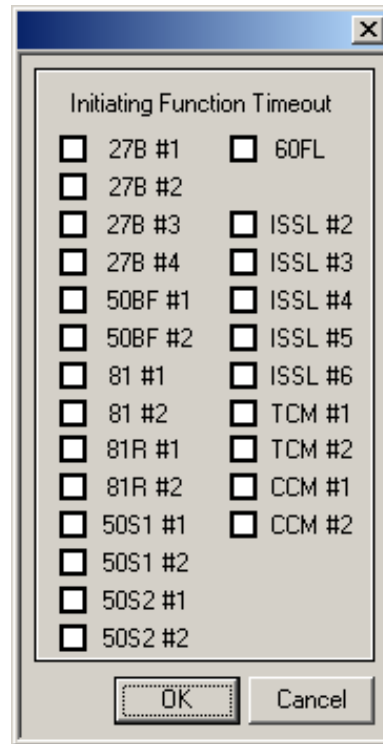

Figure 4-95 Selection Screen for Initiating Function Timeout
6. If desired select the Initiating Function Timeout button. ISSLogic will display the Initiating Function Timeout Selection screen (Figure 4-95).